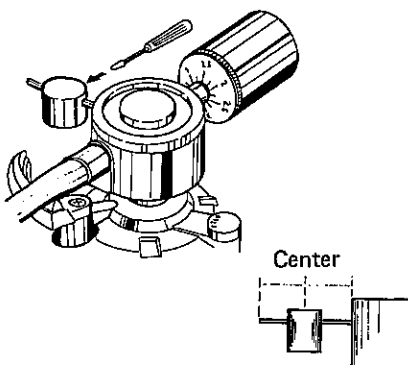

Fig. 6
**Lateral Balance Mounting (Fig. 6)**